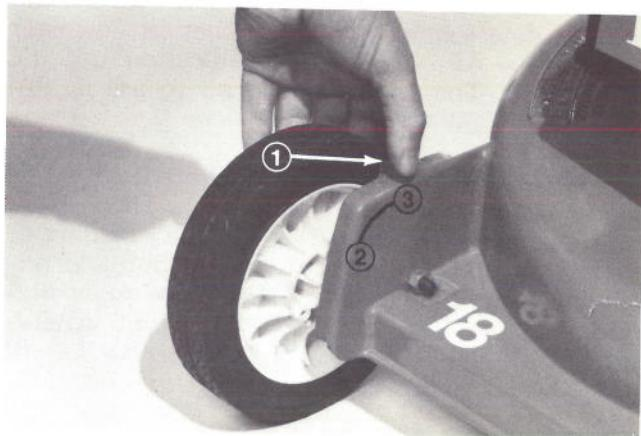
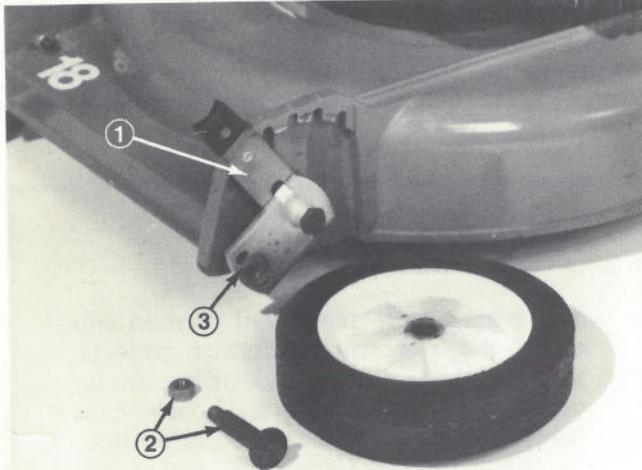

Figure 12
Figure 13
Height-of-Cut Adjusters (Fig. 12) — Height-of-Cut is adjustable to one of five approximate settings: 1 in. (25.4mm), 1-1/2 ins. (38.10mm) 2 in (50.8mm) 2-1/2 in. (63.5mm), or 3 in. (76.2mm). In addition, height can be set from approximately 1/2 in. (12.70mm) to 2-1/2 in (63.5mm) by relocating wheel mount bolts in different holes in height-of-cut brackets (Fig. 13).
2. Place thumb against height-of-cut adjuster and fingers on outside of wheel (Fig. 12).
1. Position height-of-cut adjuster in "E" height-of-cut setting, slide an open end wrench over locknut at rear of wheel mounting bracket, use a box end or socket wrench over wheel bolt and remove wheel bolt and wheel from bracket (Fig. 13).
2. Install wheel and wheel bolt into top hole in bracket and secure with locknut (Fig. 13).